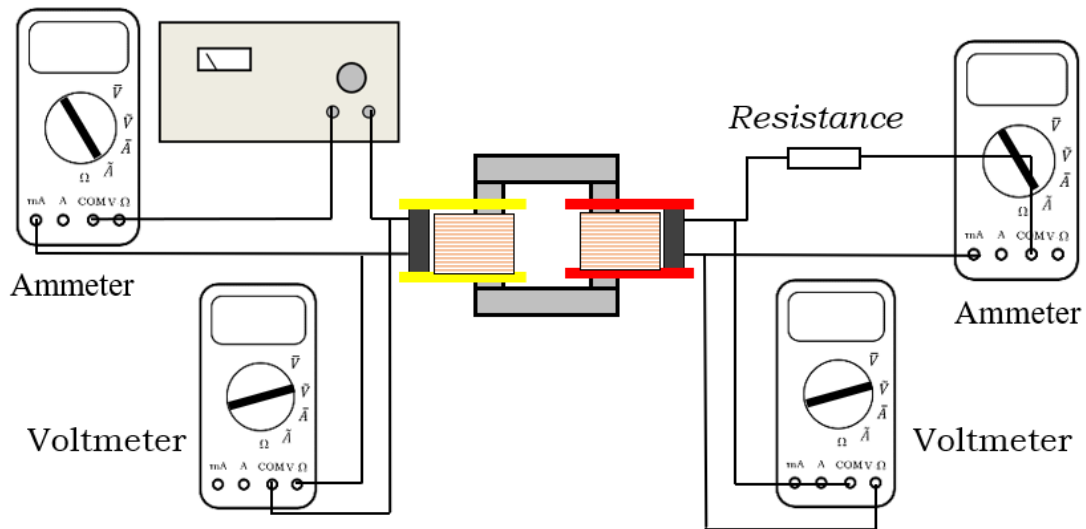
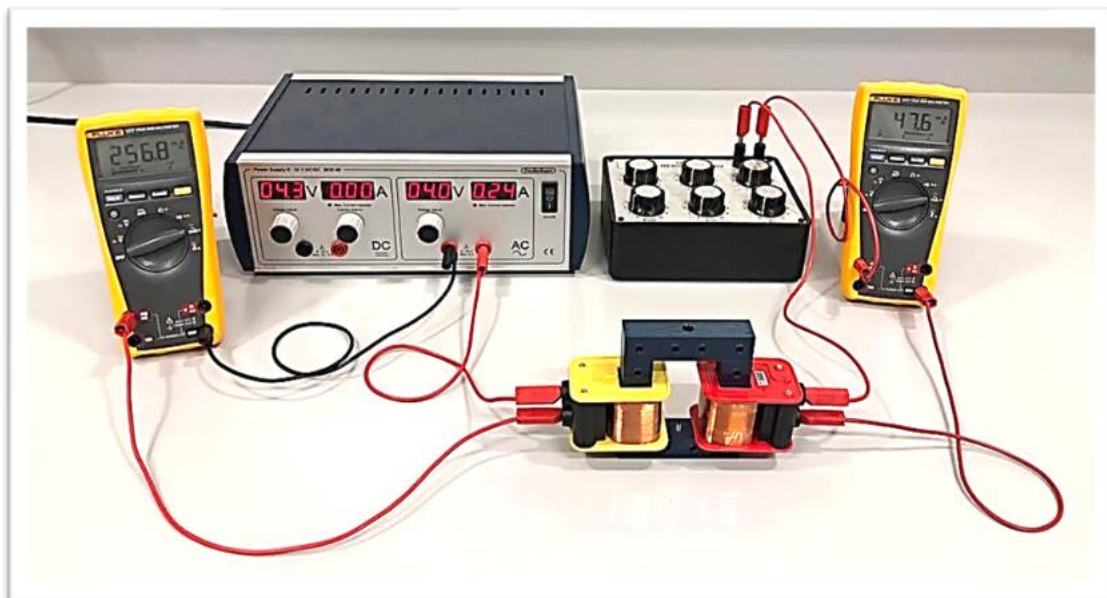

Fig. 5: Determining power efficiency of the Transformer
Fig. 6: Connections photo for circuit given in **Fig.5**. Includes 2 Ammeters only: the left, to measure I_{in} , and the right to measure I_{out}
- 1- Set up the circuit given in **Fig.5** as shown in **Fig.6**, using **400-turns** coil as the **primary**, and **1600-turns** coil as the **secondary**.